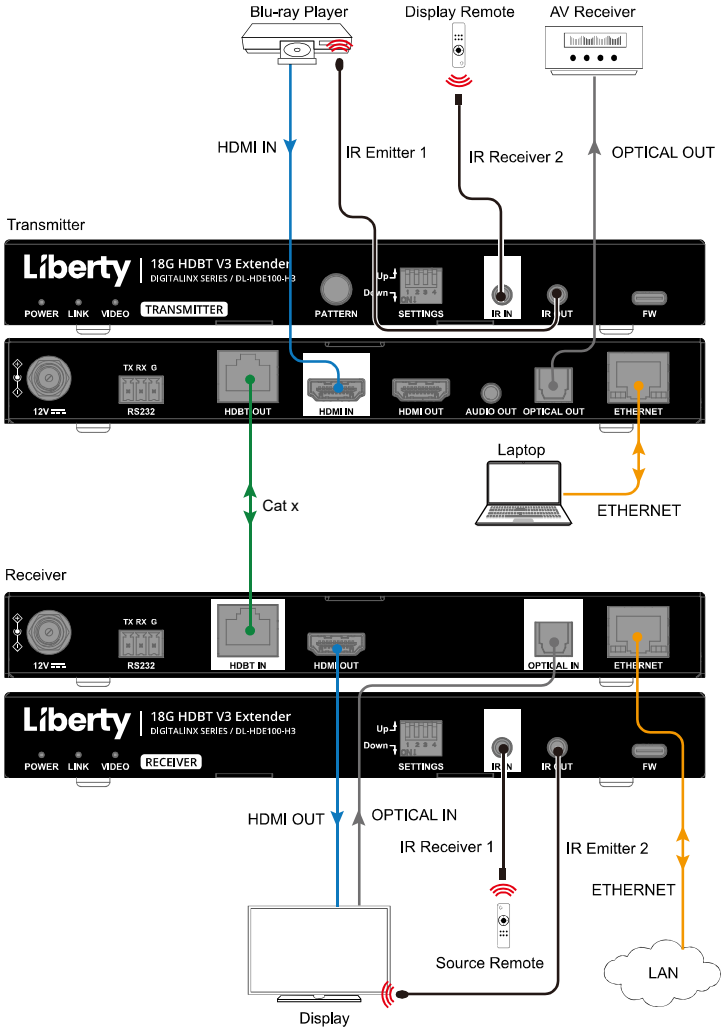

Figure 1
4. Power on all attached devices. The audio and video signal from the HDMI source will be transmitted to the HDMI display (See Figure 1).
6. Power on all attached devices. Audio signal from OPTICAL IN port will be transmitted to OPTICAL OUT port (See Figure 1).
side using display remote (See Figure 1).
- Ethernet Pass-through: Connect the ETHERNET port of the transmitter/receiver to local area network, and connect a laptop to the ETHERNET port of the receiver/transmitter, the laptop can access to the connected local area network (See Figure 1).